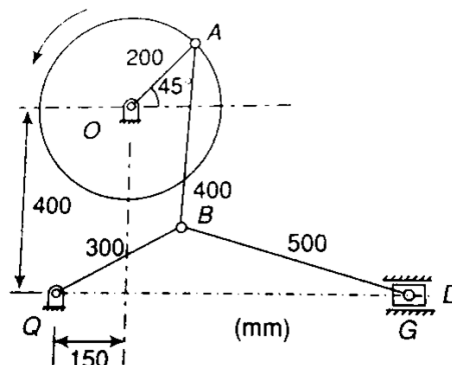

Figure 1
- 3 In the toggle mechanism shown in Figure 1, the crank OA rotates at 210 rpm counter-clockwise increasing at the rate of  $60 \text{ rad/s}^2$ . For the given configuration, determine: (i) Velocity of the slider D and the angular velocity of the link BD, and (ii) Acceleration of slider D and the angular acceleration of the link BD. **20**